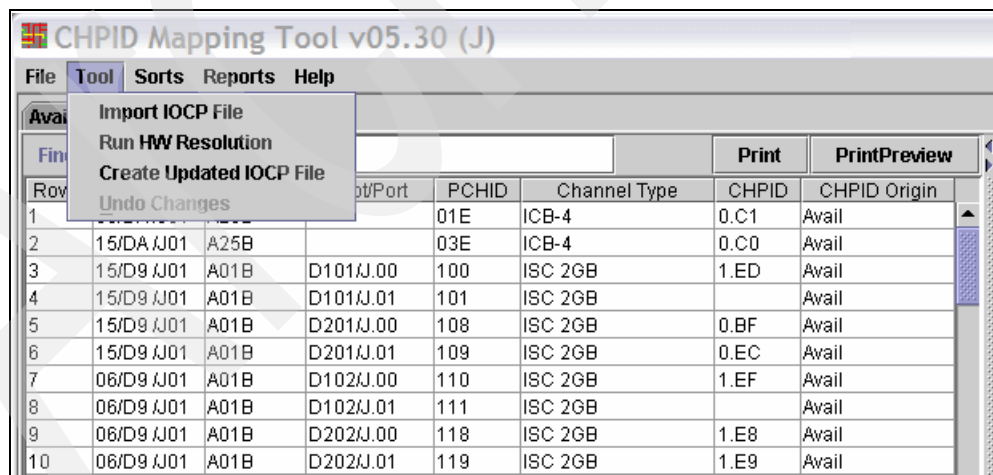

Figure 4-69 CMT - Create Updated IOCP File
1. Click **Tool** → **Create Updated IOCP File** (Figure 4-69).